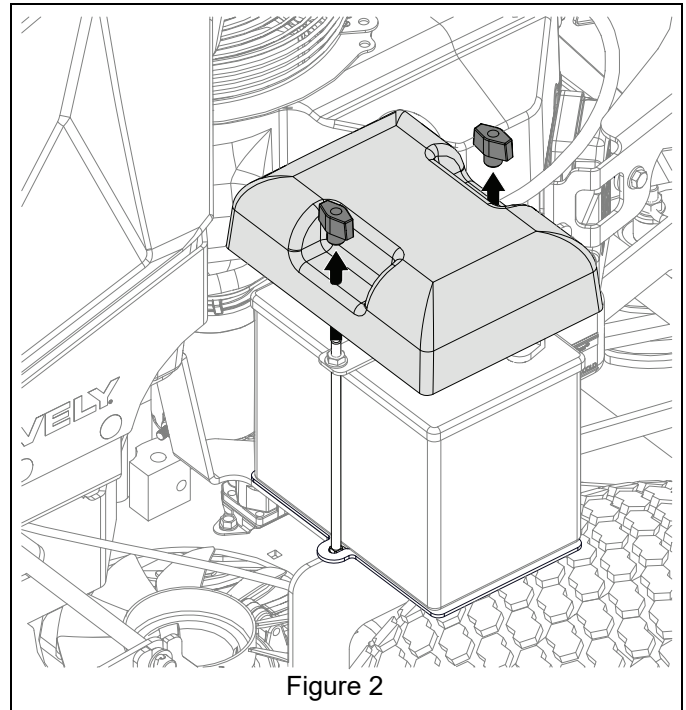

Figure 2
2. Remove two wing knobs retaining battery cover and remove battery cover. See Figure 2.